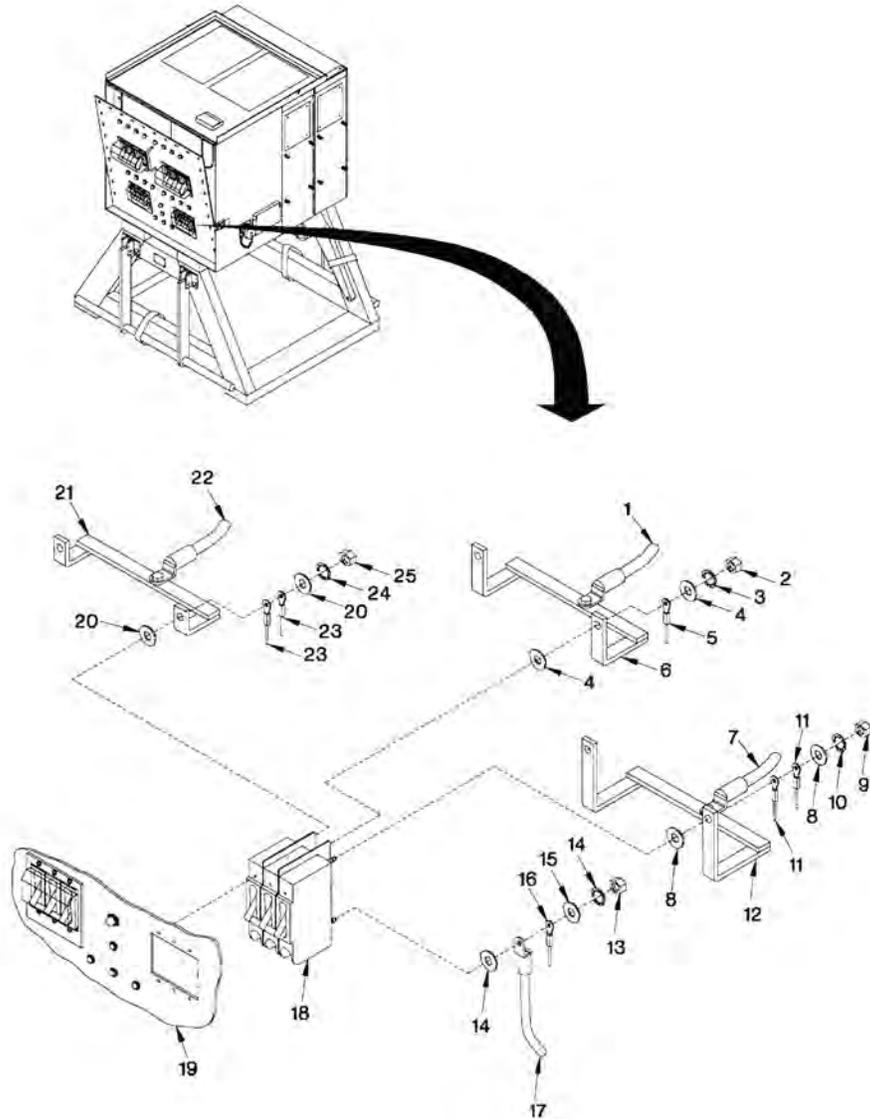

Figure 1. Circuit Breaker, CB4 (PP-8440/ASM Only).
9. Place circuit breaker/CB4 (Figure 1, Item 18) in circuit breaker panel through back side of panel. Install protective boot and boot bezel on front of circuit breaker by performing procedures contained in WP 0025.
10. Connect three wires (Figure 1, Item 17) to rear of circuit breaker CB4 (Figure 1, Item 18) by installing six flat washers (Figure 1, Item 15), three locking star washers (Figure 1, Item 14), three indicator wires (Figure 1, Item 16) and three nuts (Figure 1, Item 13). Remove all tags.
12. Connect buss bar C2 (Figure 1, Item 12) to CB4 (Figure 1, Item 18) and CB3 by installing four flat washers (Figure 1, Item 8), two nuts (Figure 1, Item 9), four indicator wires (Figure 1, Item 5) and two locking star washers (Figure 1, Item 10). Ensure wire (Figure 1, Item 7) on rear of buss bar (Figure 1, Item 12) is securely attached.
13. Connect buss bar A2 (Figure 1, Item 21) to CB4 (Figure 1, Item 18) and CB3 by installing four flat washers (Figure 1, Item 20), two nuts (Figure 1, Item 25), four indicator wires (Figure 1, Item 23) and two locking star washers (Figure 1, Item 24). Ensure wire (Figure 1, Item 22) on rear of buss bar (Figure 1, Item 21) is securely attached.
14. Perform procedures in WP 0027 to secure circuit breaker panel (Figure 1, Item 19).